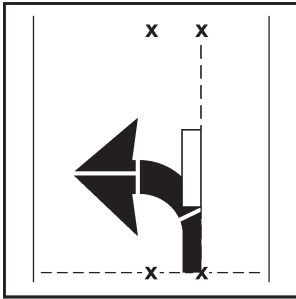

Figure 23
6. Lay out the base of the straight arrow (liner still on) with the RIGHT edge along the chalk line and the base corner meeting where the curve arrow begins to curve away from the chalk line (see Figure 23).